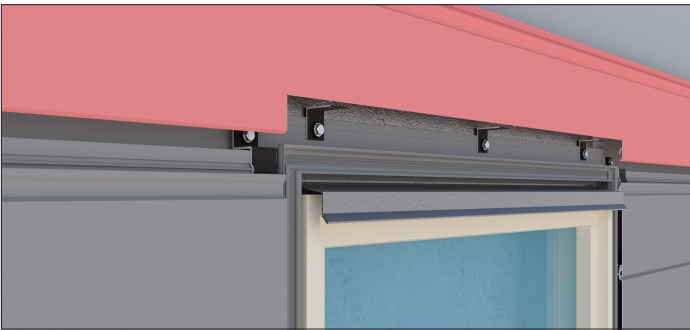
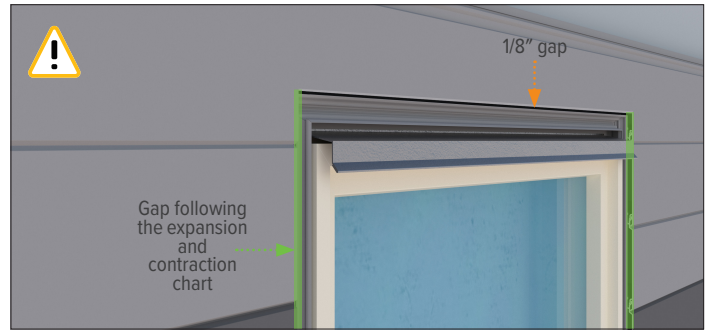

Figure 5.1
Figure 5.2
5. Install planks on either side of the jamb of the window, at head of window (Figure 5.1). Notch plank leaving 1/8" gap between the plank and the horizontal **2-Piece J Trim** back plate (Figure 5.2).
Make sure gap between the plank and vertical **2-Piece J Trim** back plate is following the expansion and contraction chart found on pg. 11 of the Installation Guide (Figure 5.2).